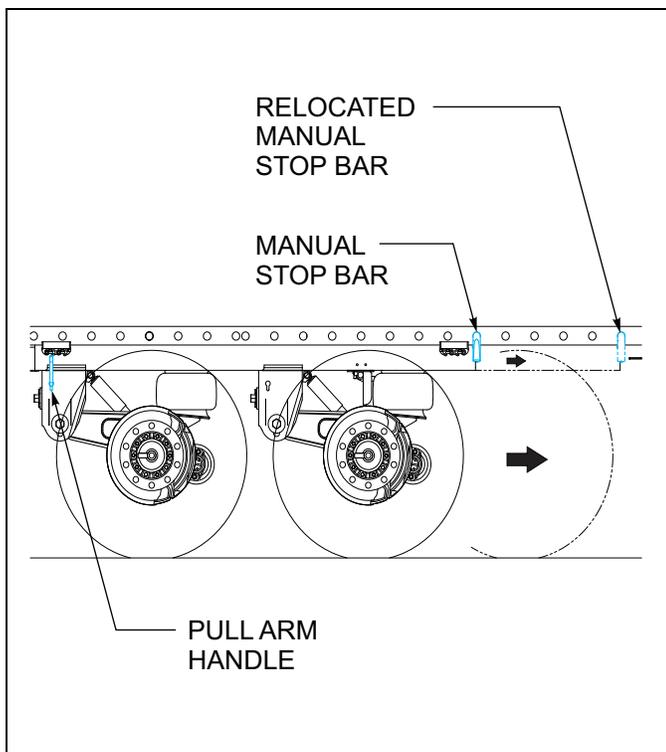

Figure 3-4: Slider Repositioning
1. With the vehicle on a level surface, set the tractor and trailer brakes and locate the slider release. pull arm handle or air release control valve (See Figure 3-4.)
2. To reposition the slider, remove the manual stop bar and relocate to desired location – rearward of slide box if moving rearward, or forward of slide box if moving forward (See Figure 3-4.)
9. When the lock pins have disengaged - slowly reposition the tractor until the slide box contacts the manual stop bar (See Figure 3-4.)